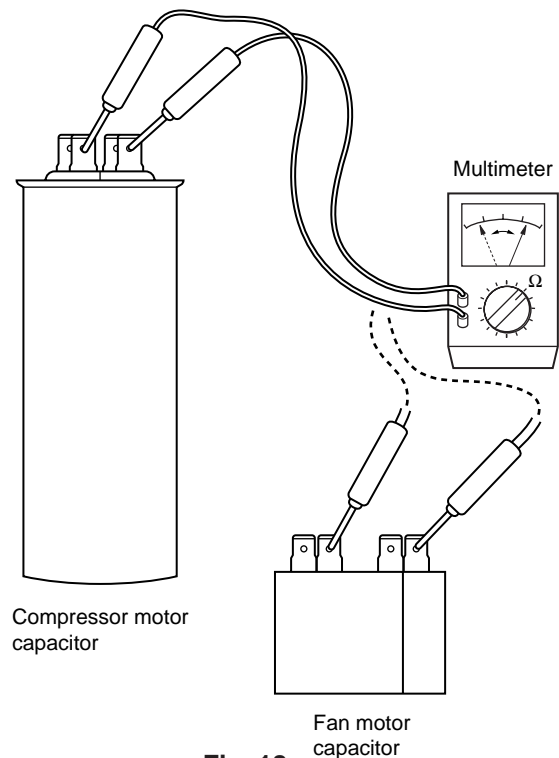

Fig. 18
⑤ **Motor capacitor Both in indoor and outdoor unit**
- Remove the lead wires from the capacitor terminals, and then place a probe on the capacitor terminals as shown in **Fig. 18**. Observe the deflection of the pointer, setting the resistance measuring range of the multimeter to the maximum value.